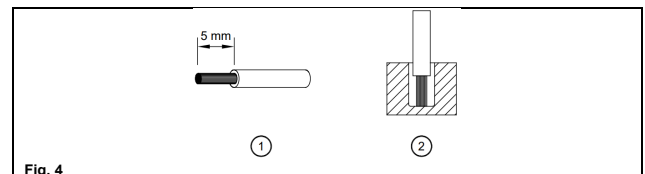

Fig. 4
(1)	1.0 ... 4.0	18 ... 12	5.76	5
(2)	0.34 ... 4.0	22 ... 12	5.76	5
To secure reliable and shock proof connections, the stripping length should be 5 mm (see Fig. 4 (1)). Please ensure that the wires are fully inserted into the connecting terminals as shown in Fig. 4 (2). All wire strands must be fully inserted into the terminals with the screws securely fastened in order to ensure safety and maximum contact.